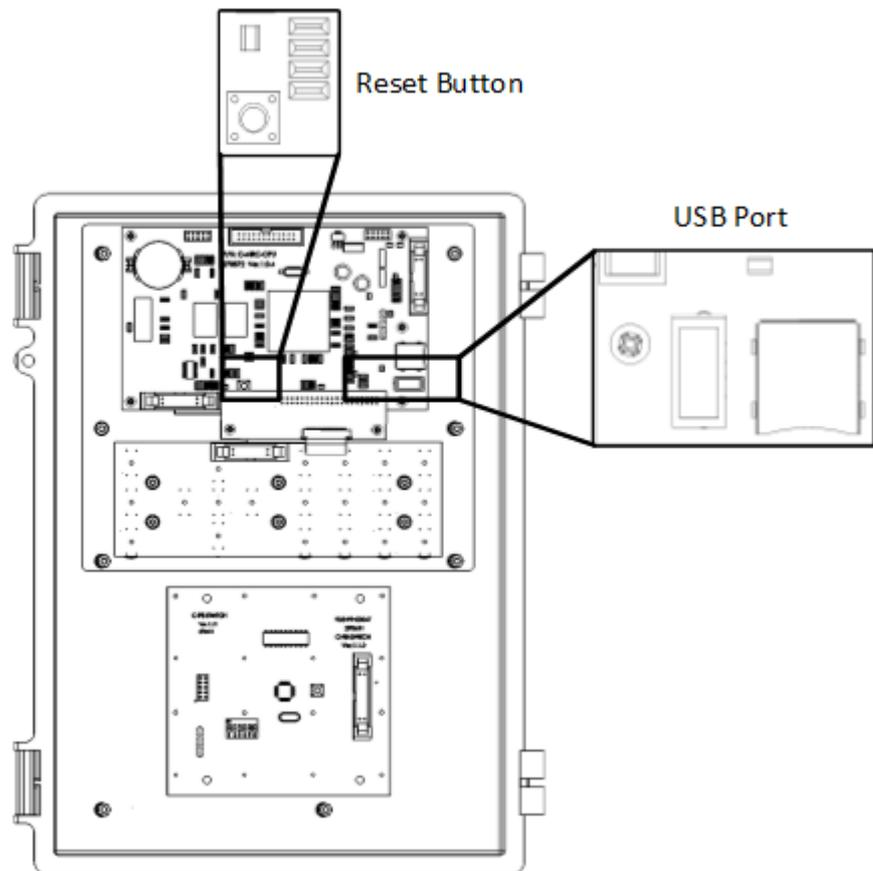

Figure 28: USB Flash Drive Location
1. Insert a USB flash drive containing the settings into place (Figure 28).
1. Insert a USB flash drive into place (Figure 28).
1. Insert a USB flash drive containing the firmware into place (Figure 28).